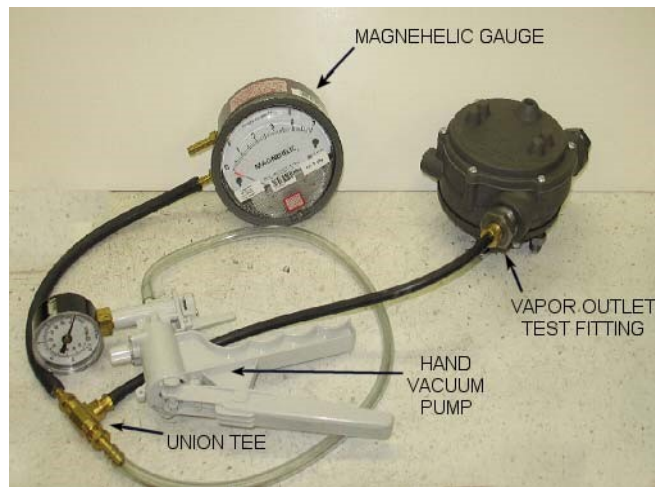

Figure 6-1. Secondary Stage Test Connection
1. Connect the vacuum pump, the Magnehelic gauge and the regulator vapor outlet to the Union Tee fitting Figure 6-1). Make sure there is no leakage at any of the fittings.